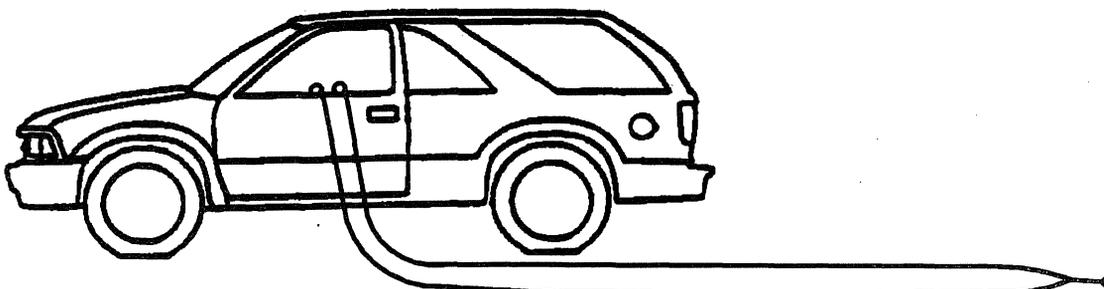

Figure 25—Prepare Deployment Harness for In-Vehicle Deployment
12. Connect the deployment harness to the inflator module, yellow 2-way connector at the base of the steering column. Route deployment harness out the driver side of the vehicle (Figure 25).
14. Stretch the deployment harness to its full length (Figure 25).